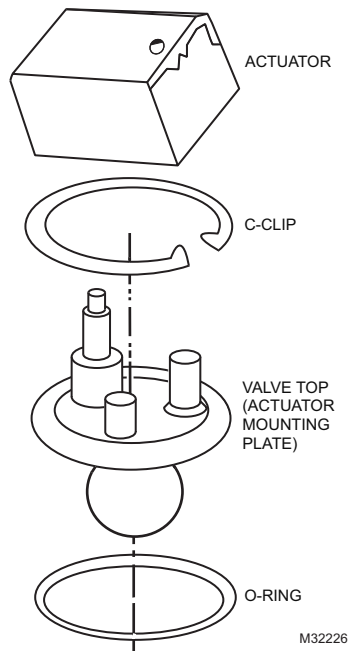

Fig. 3. Actuator mounting plate exploded assembly
3. Refer to exploded assembly, Fig. 3. Using snap ring pliers, squeeze and remove C-clip snap ring on top of valve.